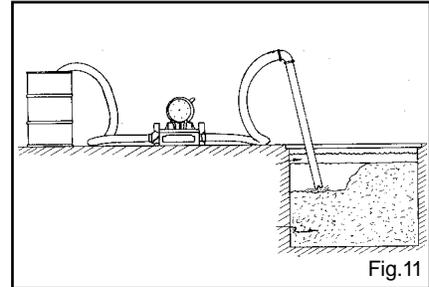

Fig.11
- **KEEP SOLIDS IN SUSPENSION**- When the pump is used to pump solid matter such as sludge at the bottom of a tank or to dredge out a section of a lagoon make sure the solids have enough liquid mixed in to allow it to flow. Raking or stirring while the pump is pumping will keep solids in suspension. Rule of thumb in pumping viscous liquids or combinations of liquids with solids, "If It Will Not Flow Through A Line Under Gravity, The Pump Will Most Likely Not Pump It." See Fig.11